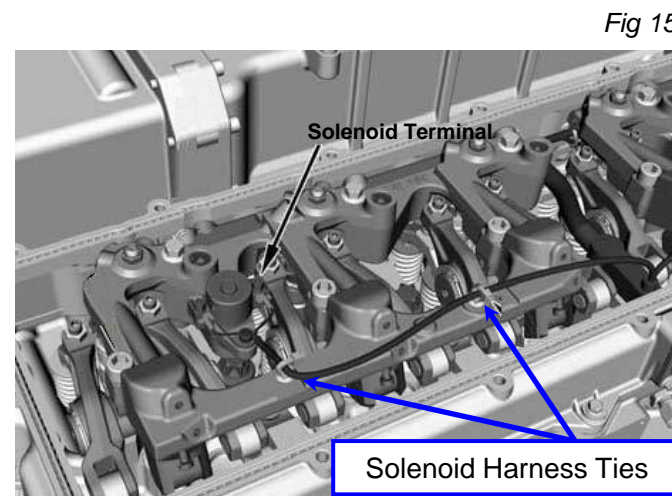

Fig 15
- Secure the solenoid harnesses to the brake housings “Fir Tree” clips using new tie straps (3) to ensure that the harness is kept away from all moving engine parts, camshaft and rockers. (See Fig 15)